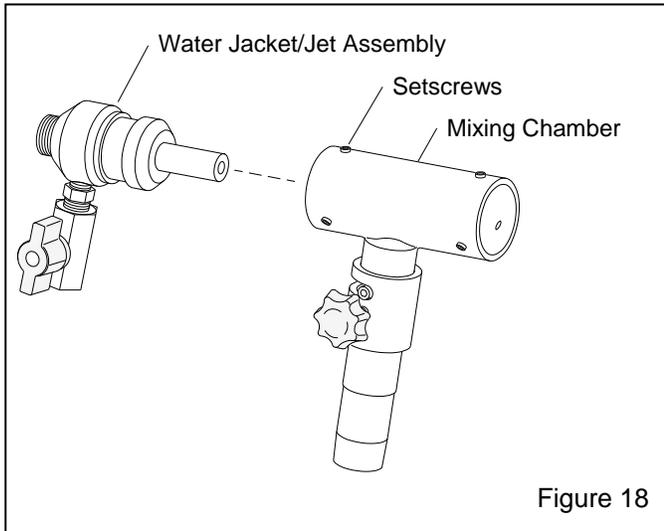

Figure 18
7.3.1 Refer to Figure 18 and separate the water jacket/jet assembly from the mixing chamber assembly by using a 2.5 mm hex key to loosen the three setscrews holding the jet to the mixing chamber. Then while twisting the jet to loosen it, pull out to remove it from the chamber.